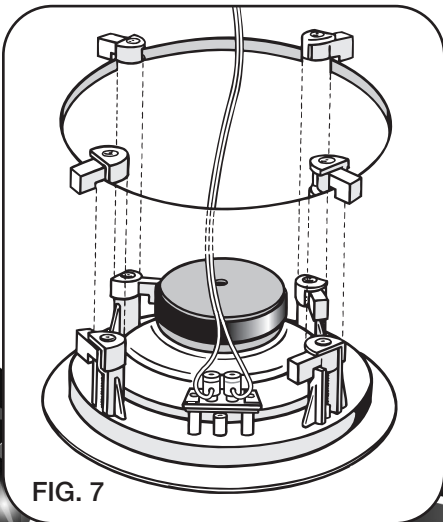

FIG. 7
6. See FIG. 7. With the speaker wire attached to the speaker, slide the speaker up inside the cutout hole. Center the speaker in the cutout hole and turn the four locking screws clockwise until the speaker is drawn up snugly to the wall board from behind, clamping the speaker in place. Try to tighten each screw equally. Replace the speaker grille by gently placing it over the speaker until the magnets "grab" hold of the grille.